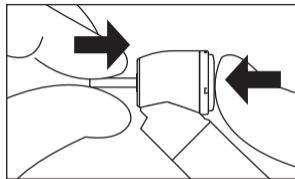

Fig. 5
- 1) Insert the bur until it is correctly seated in place. (Fig. 5)